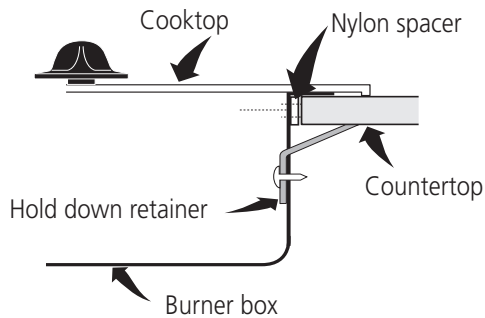

Figure 12
3. Unit clamp down information. Once unit is installed in counter opening, you must clamp unit down as shown in figure 12.